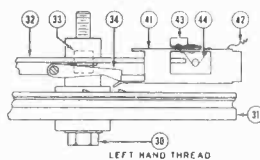

Fig. 5
CYCLING: A single revolution of the Main Cam (32) results in complete automatic cycling of the changer. This includes selection of record from stack, lifting Pick-up Arm (1) from rest position and setting needle on edge of record. Upon completion of the revolution, Release Bracket (41) lifts Drive Dog (34) from Drum (31) thus disengaging Main Cam (32) (see Fig. 5).